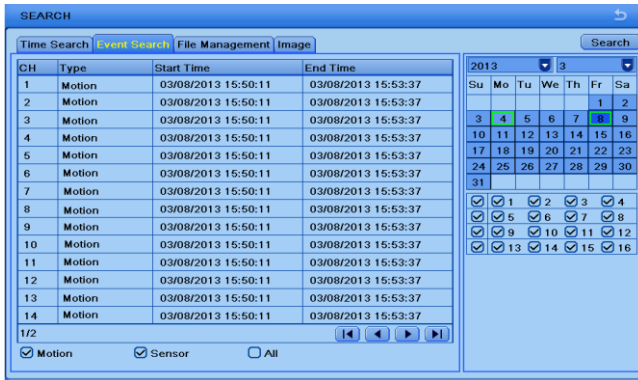

Fig 5-2 Search Configuration-Event Search
- Go to Main Menu→Search→Event Search button. Refer to Fig 5-2.